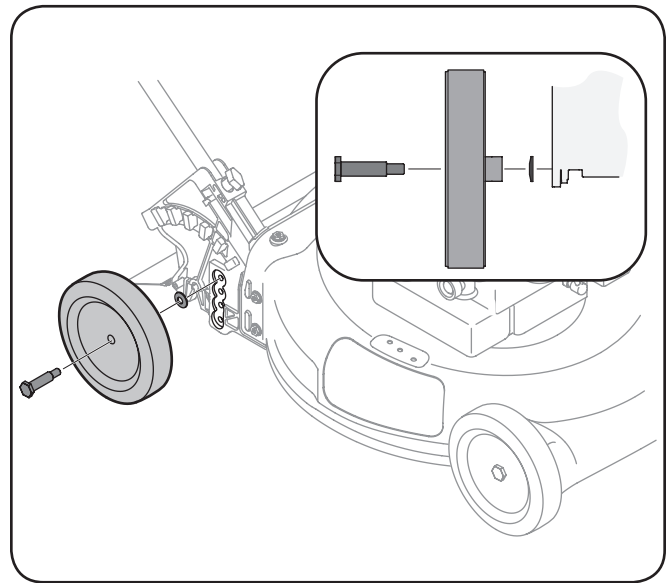

Figure 3-6
- Using bolts and washers from Group 1 of the hardware pack, secure the rear wheels to the deck as shown in Figure 3-6. The washer should be installed with the crown side facing the wheel.